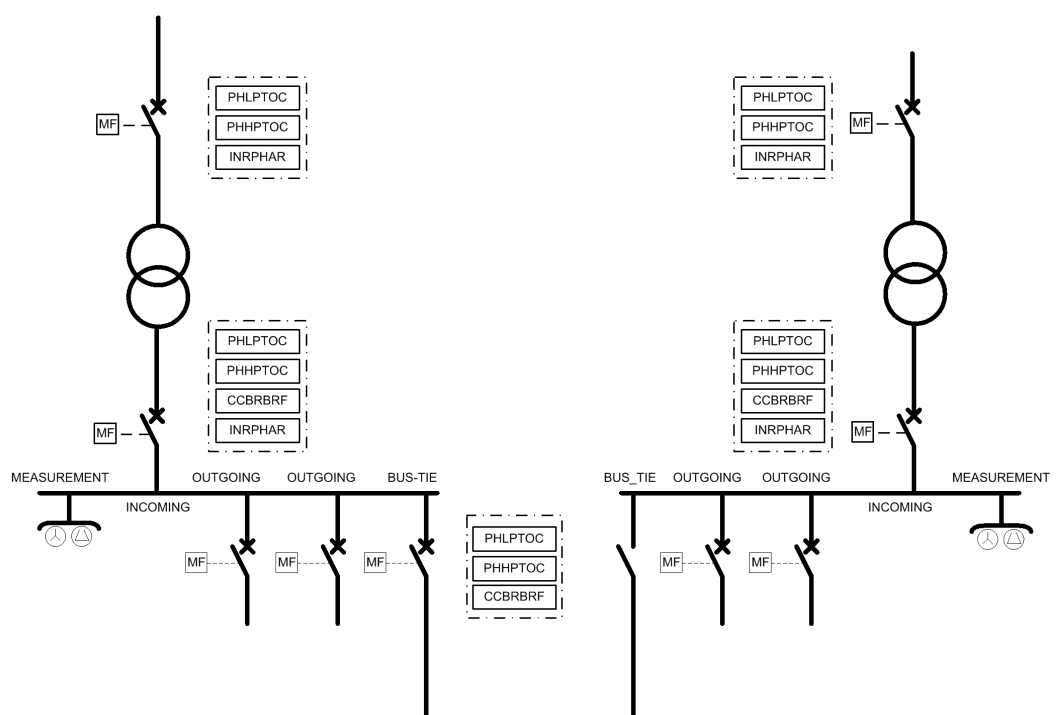

Figure 115: Example of traditional time selective transformer overcurrent protection
Traditionally, overcurrent protection of the transformer has been arranged as shown in Figure 115. The low-set stage (F)PHLPTOC operates time-selectively both in transformer and LV-side busbar faults. The high-set stage PHHPTOC operates instantaneously making use of current selectivity only in transformer HV-side faults. If there is a possibility, that the fault current can also be fed from the LV-side up to the HV-side, the transformer must also be equipped with LV-side overcurrent protection. Inrush current detectors are used in start-up situations to multiply the current start value setting in each particular protection relay where the inrush current can occur. The overcurrent and contact based circuit breaker failure protection CCBRBRF is used to confirm the protection scheme in case of circuit breaker malfunction.